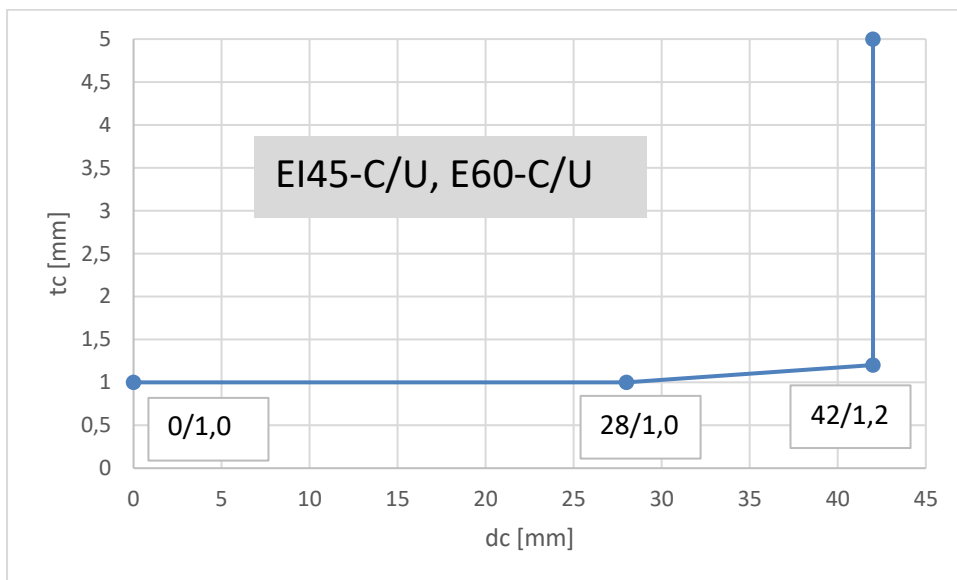

Figure 53: Classified range for insulated metal pipes, sealed with CFS-IS in CFS-CT HDB
Classification given in Figure 53 is valid for:
- Pipe diameter and minimum pipe wall thickness: see Figure 53